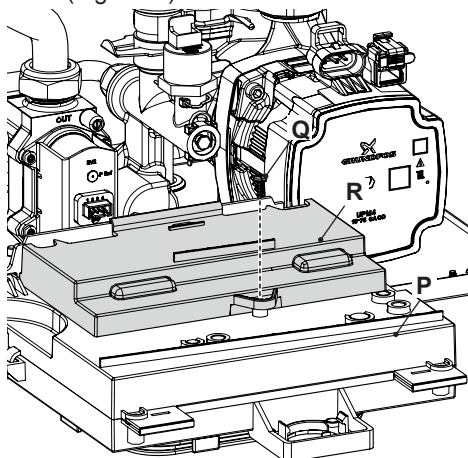

Fig. 6.17
- Turn the control panel "P", as shown in Fig. 6.17.
terminal block, remote and external sensor (Fig. 6.17).